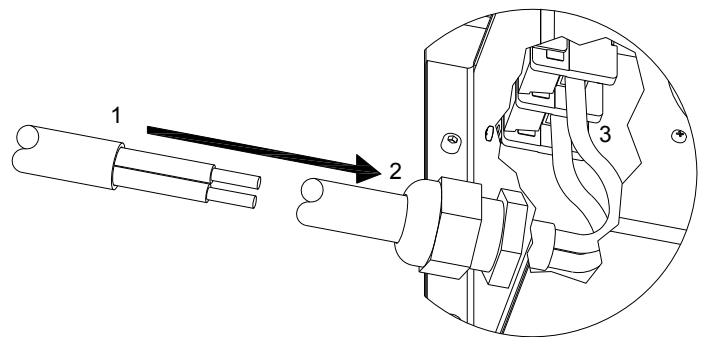

Figure 11
Insert the cable (1) through the cord grip (2) on the HV transformer remote cover and connect the wires (3) to the terminal block (**Figure 11**).